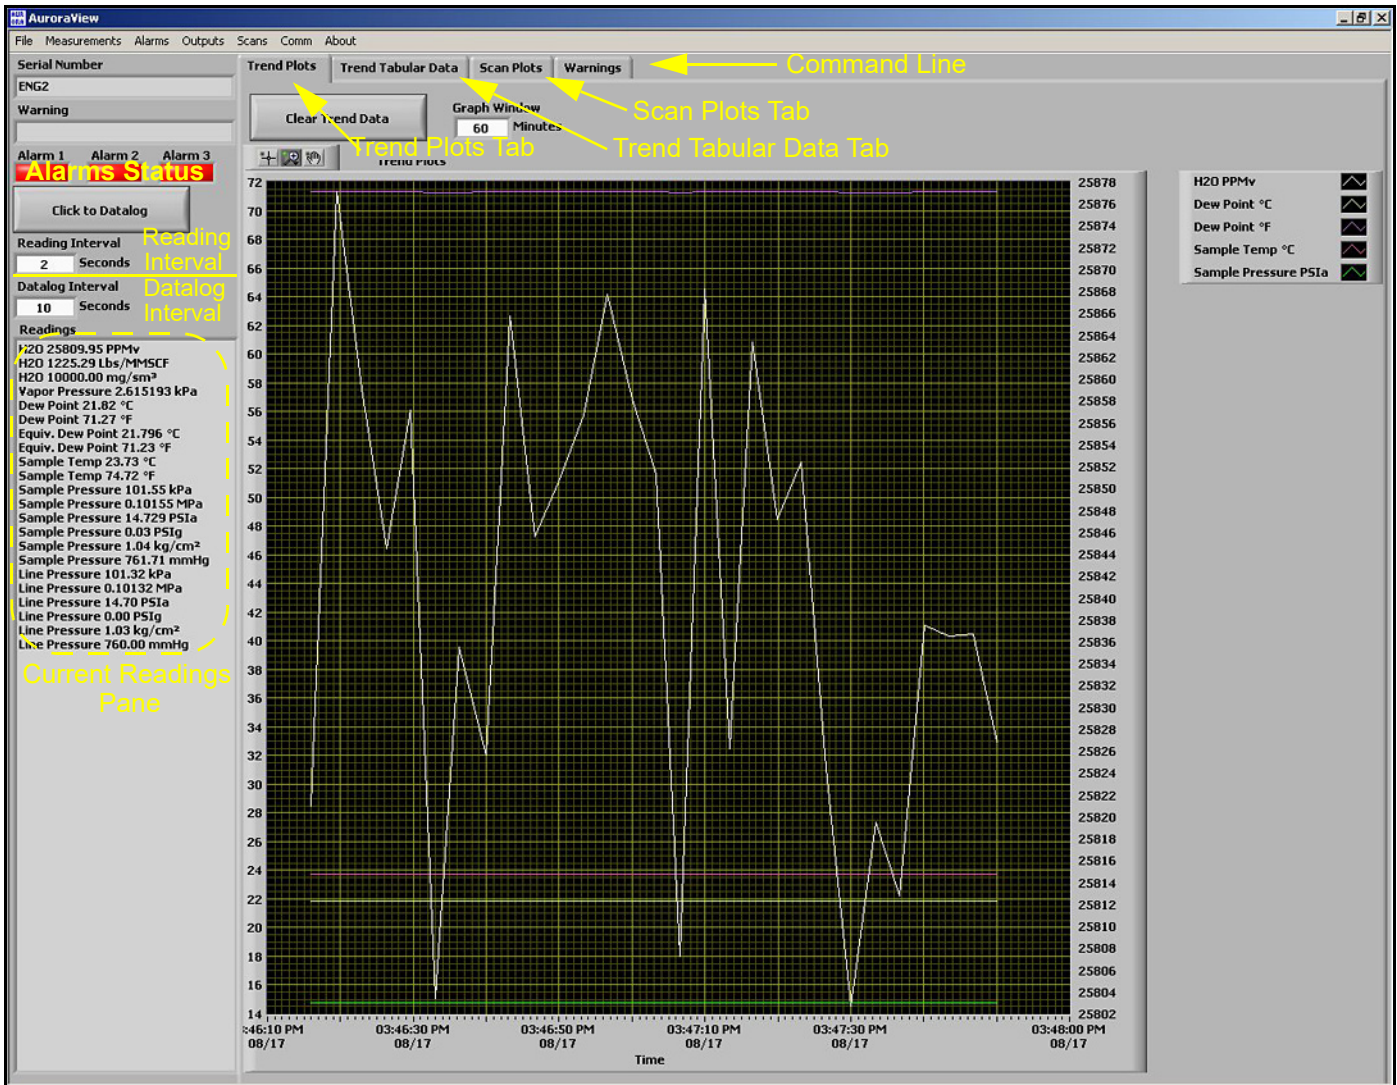

Figure 29: AuroraView Main Screen
2. AuroraView boots up and displays a screen similar to *Figure 29* below.